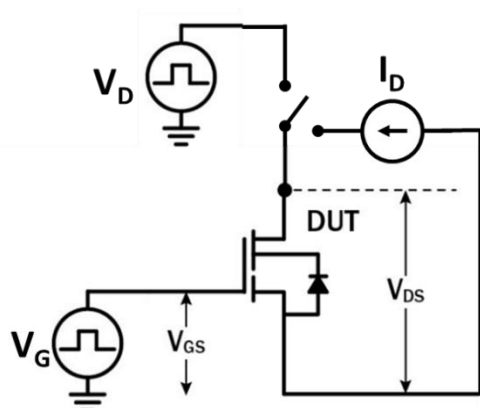

Figure 18. Dynamic $R_{DS(on)eff}$ Test Circuit
f. Dynamic $R_{DS(on)}$ value; see Figures 18 and 19 for conditions